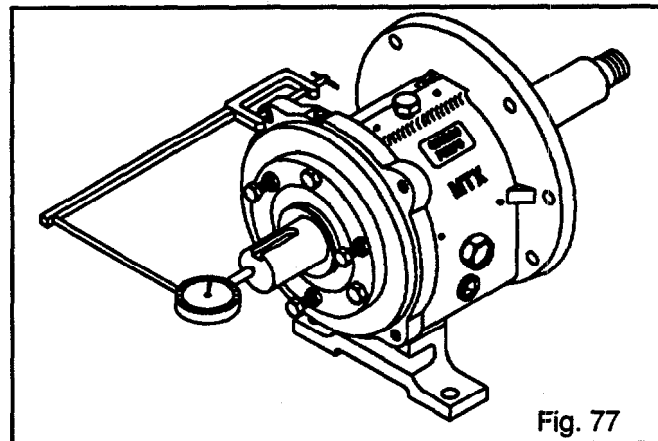

Fig. 77
2. Check shaft end play. Move shaft forward then backward by hand, noting indicator movement. If total indicator reading is greater than Table 10, page 51, values, disassemble and determine cause (Fig. 77).